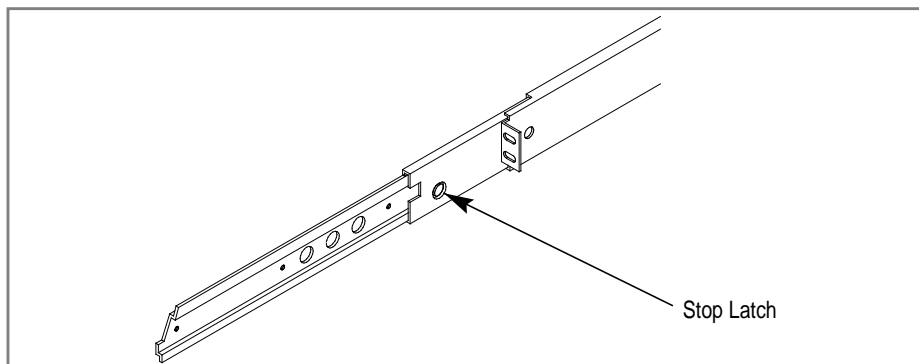

Figure 2-5. Rack Slide Stop Latch
1. Pull the slide-out track section to the fully extended position. See Figure 2-5.